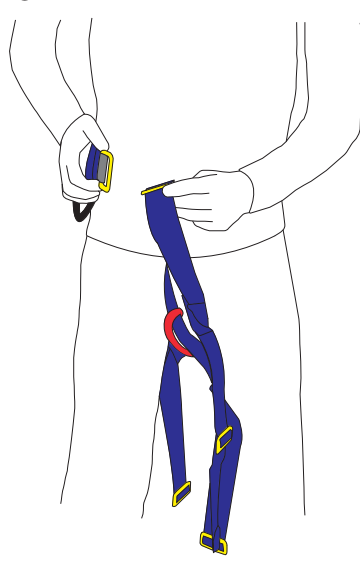

Fig. 3
3. Take hold and fit one of the two front waist adjuster buckles, then repeat with the other buckle. Centralise belay loop and adjust to fit comfortably Figs. 3 & 4. Fit waist buckle as shown in Figs. A- B